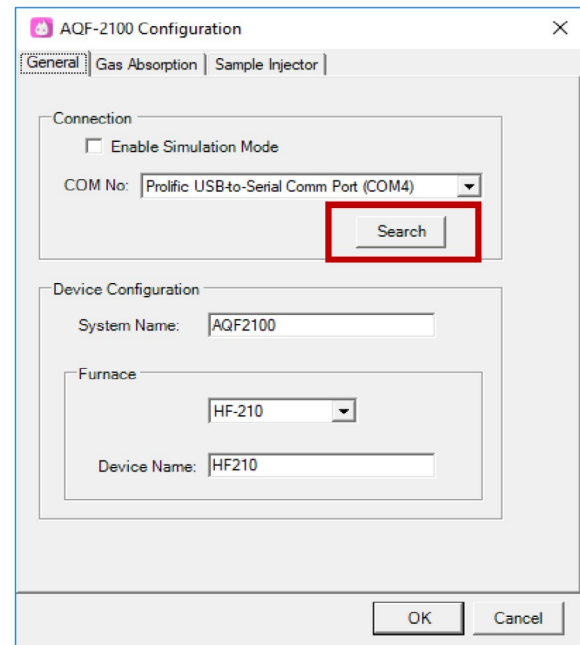

Figure 5. General tab. Activating the connection by selecting Search and selecting COM channel on the drop-down list
2. Select the General tab. Click on *Search* to find the COM channels and select the COM for the combustion system (often COM4) to link the module to the configuration (Figure 5).